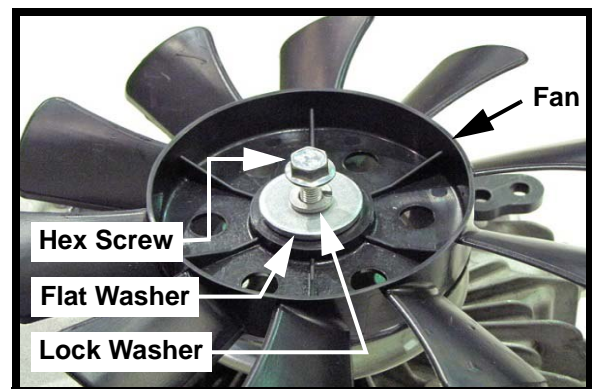

FIGURE 6
11. After installation of the K46 LT Hydro Transmission Assembly, install the drive belt around the transmission drive pulley, then install the fan, flat washer, lock washer and hex screw as shown in Figure 6. Torque the hex screw to 70 -100 in. lbs.